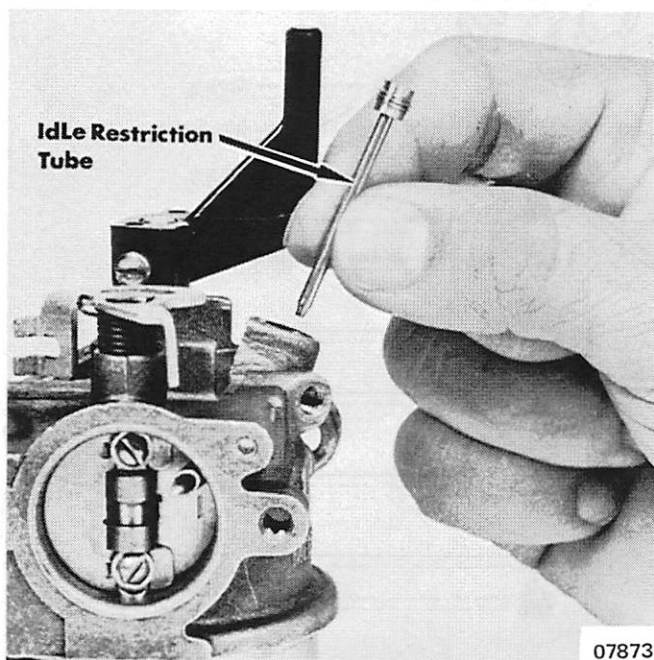

Figure 2. Idle Restriction Tube Removal
2. Unscrew idle restriction tube from inside main discharge nozzle on top of carburetor. (Figure 2) Be sure not to lose washers.